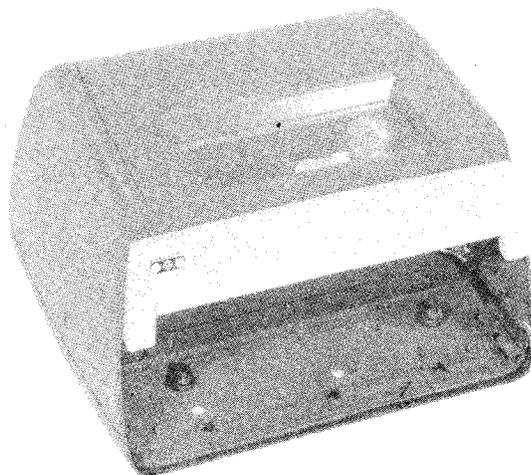

Figure 1 - Typing Unit Cover and Pan
1.01 This section provides lubrication procedures for the late design 37 typing unit cover and pan which has the front cover cut out for WECO 635R2 switches (Figure 1). It is reissued to incorporate minor engineering changes and comments received on Issue 1. Since only a limited distribution was made on Issue 1, marginal arrows have been omitted. For similar information on early design units which have the front cover cut out for Licon 76-type switches, see Section 574-326-701TC.